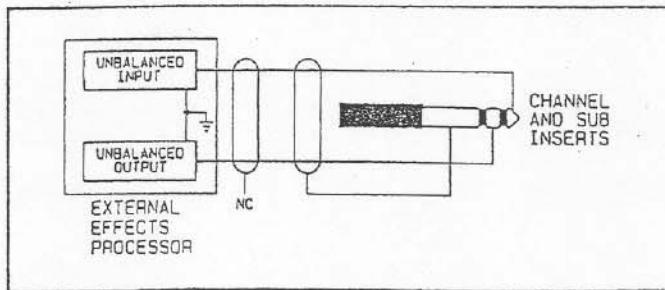

Figure 3: Typical Insert Connection
Signal processing equipment may easily be inserted in the signal path by using the 1/4-inch phone (TRS) insert connectors. The external device must have line level unbalanced inputs and outputs. The output signal from the mixing console is on the Tip and the input signal is on the Ring. The Sleeve is ground. Refer to Figure 3 for a typical insert connection.
and the external processing device should have a low output internal impedance (100 ohms or less). Refer to Section 3.3 of this manual and Figure 3 for proper connections.
8. *Input Channel INSERTs:* A space-saving, 3-conductor (stereo) phone jack is used for both output from the input channel and for the return to the input channel from an external processing device. Be sure that the device that is to be patched in has line level unbalanced inputs and outputs. The signal at the insert jack can drive loads of 2000 ohms or greater and the external processing device should have a low output internal impedance (100 ohms or less). Refer to Section 3.3 of this manual and Figure 3 for proper connections.